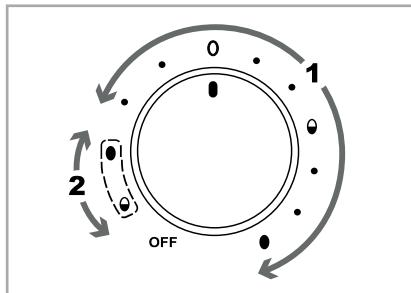

Fig. 1
- 1) Turn the control dial ④ to the position that corresponds to the desired hardness of the eggs. Use the setting range "1" (see fig. 1) with symbols and corresponding dots in front of it:
For the first cooking process, the setting range "1" with symbols and corresponding dots in front of it applies. For the second cooking process, the setting range "2" with symbols outlined by dashes applies (see fig. 1).
- 2) Set the control dial ⑨ to the position that corresponds to the softest degree of hardness of the eggs (the setting range "1" applies, see fig. 1). The control lamp ⑩ lights up and cooking begins.
- 3) As soon as the eggs have reached the first, softer degree of hardness, a signal tone sounds. Turn the control dial ⑨ to the "**OFF**" position to switch off the appliance. The control lamp ⑩ goes out.
4) Take off the lid ③ and carefully remove the desired number of eggs (now boiled to the softer degree of hardness).
- 5) Replace the lid ③ and turn the control dial ⑨ to the position of the symbols outlined by dashes (setting range "2", see fig. 1) corresponding to the desired hardness level for the eggs left in the appliance: